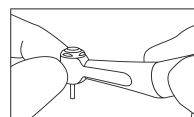

Fig. 4
3. After the handpiece rotation has completely stopped, touch the handpiece head to confirm the head is not heating abnormally(Fig.4).